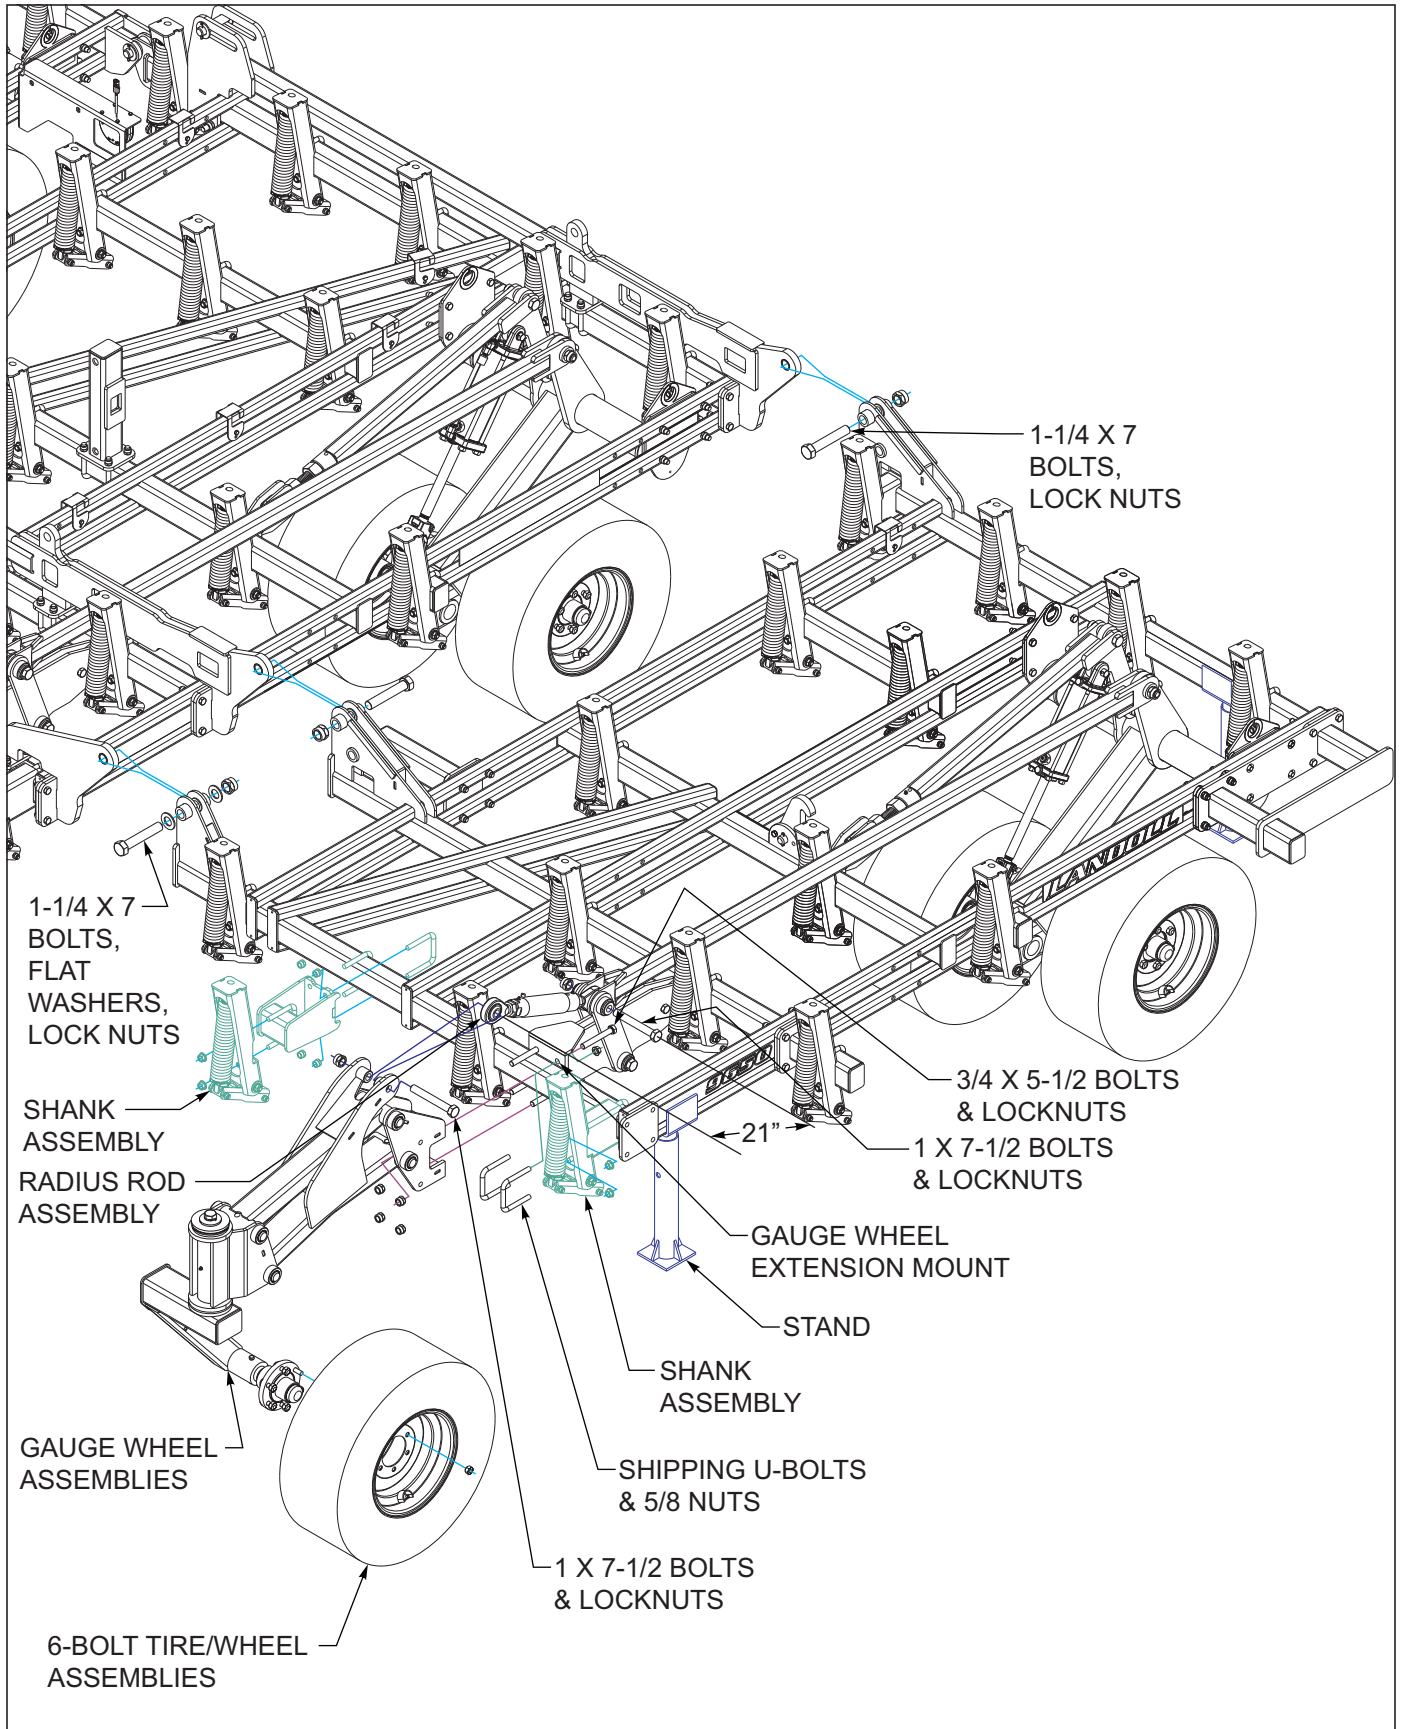

Figure 3-6: Outer Wing Assembly
1. Install outer wing frames to inner wing frames using 1-1/4-7 x 7 hex head cap screws, and hex lock nuts **See Figure 3-6 Note the direction of bolts as shown in Figure 3-6.** Use flat washers on the front mount but not the middle or rear hinge.
1. Remove the shipping u-bolts and nuts from front of the gauge wheel extension mounts **See Figure 3-6.**